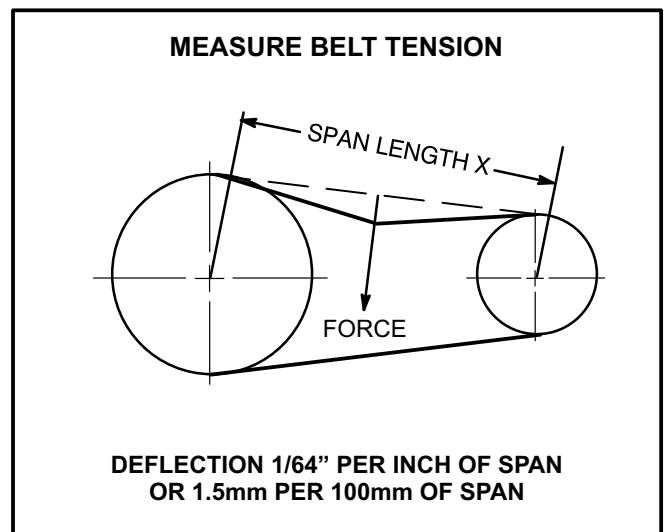

FIGURE 10
- 1- Measure span length X. See figure 10.
- 2- Apply perpendicular force to center of span (X) with enough pressure to deflect belt  $1/64''$  for every inch of span length or 1.5mm per 100mm of span length.